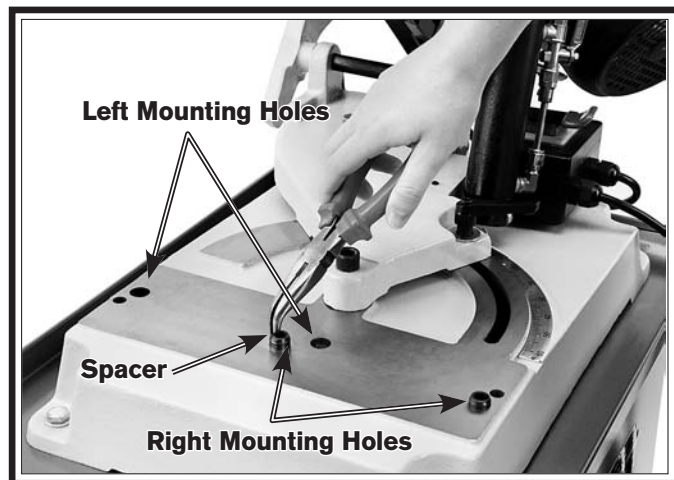

Figure 39. Moving vise spacers.
4. Remove the two spacers from the holes on the left side of the machine base, then reposition them into the two holes in the right side of the machine base, as shown in **Figure 39**.